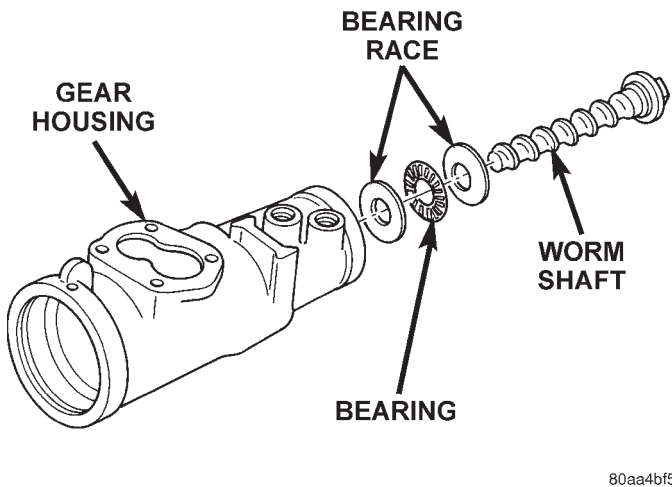

Fig. 23 Worm Shaft
(12) Remove the adjuster lock nut and adjuster nut from the stub shaft.
(13) Pull the stub shaft with the spool valve and thrust support assembly out of the housing.
(14) Remove the worm shaft from the housing (Fig. 23).
(6) Install the guide onto rack piston and install clamp and clamp bolts. Tighten bolts to 58 N·m (43 ft. lbs.).
(7) Insert Arbor C-4175 into bore of rack piston and hold tool tightly against worm shaft.
(8) Turn the worm shaft COUNTERCLOCKWISE while pushing on the arbor. This will force the rack piston onto the arbor and hold the rack piston balls in place.
(9) Install the races and thrust bearing on the worm shaft and install shaft in the housing (Fig. 23).
(10) Install the stub shaft with spool valve, thrust support assembly and adjuster nut in the housing.
(11) Install the rack piston and arbor tool into the housing.
(12) Hold arbor tightly against worm shaft and turn stub shaft CLOCKWISE until rack piston is seated on worm shaft.
(13) Install pitman shaft and side cover in the housing.
(14) Install rack piston plug and tighten to 150 N·m (111 ft. lbs.).
(15) Install housing end plug.